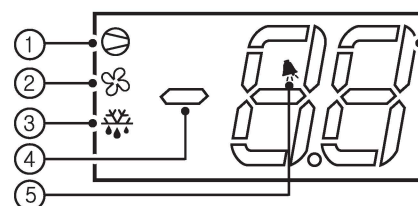

Fig 8-1
8.2 LED Display Symbols (Fig 8-1)
- ①, : ON if compressor output is ON.
- ②, : ON if evaporator fan is in operation.
- ③, : ON if manual and electric defrost is in operation.
- ④, : ON if temperature is displayed (-99 ~ 99℃).
- ⑤, : Alarm in progress.